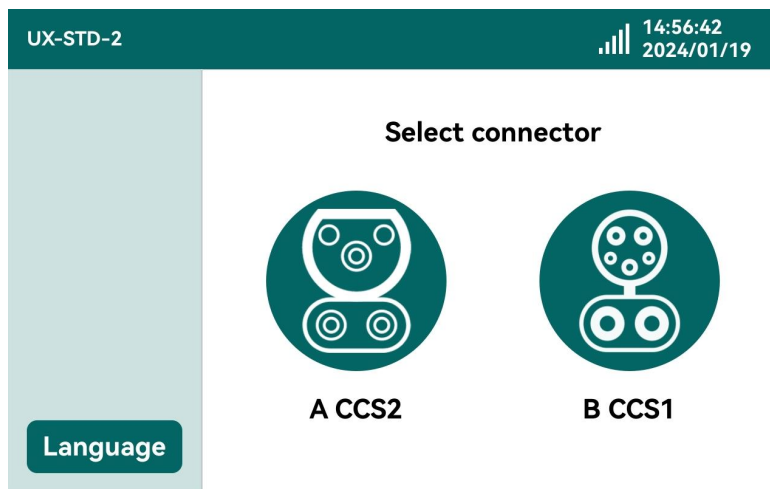

图 1-1 主界面
-  Target charging option; (not shown in Figure 1-1)